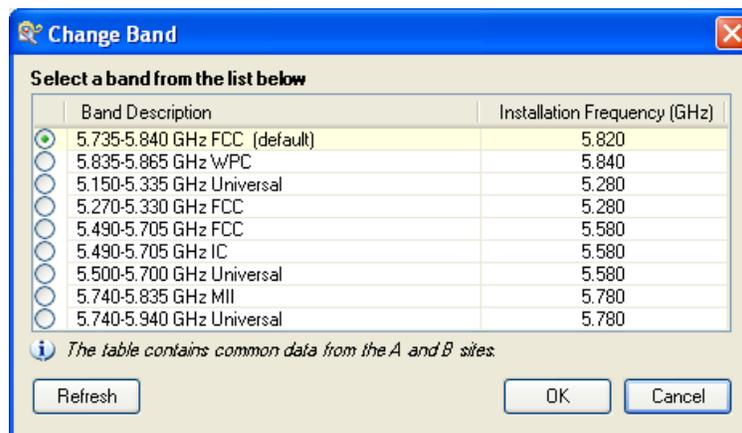

Figure F-10. Change Band Dialog Box
*Note* The bands appearing in *Figure F-10* are product-dependent.